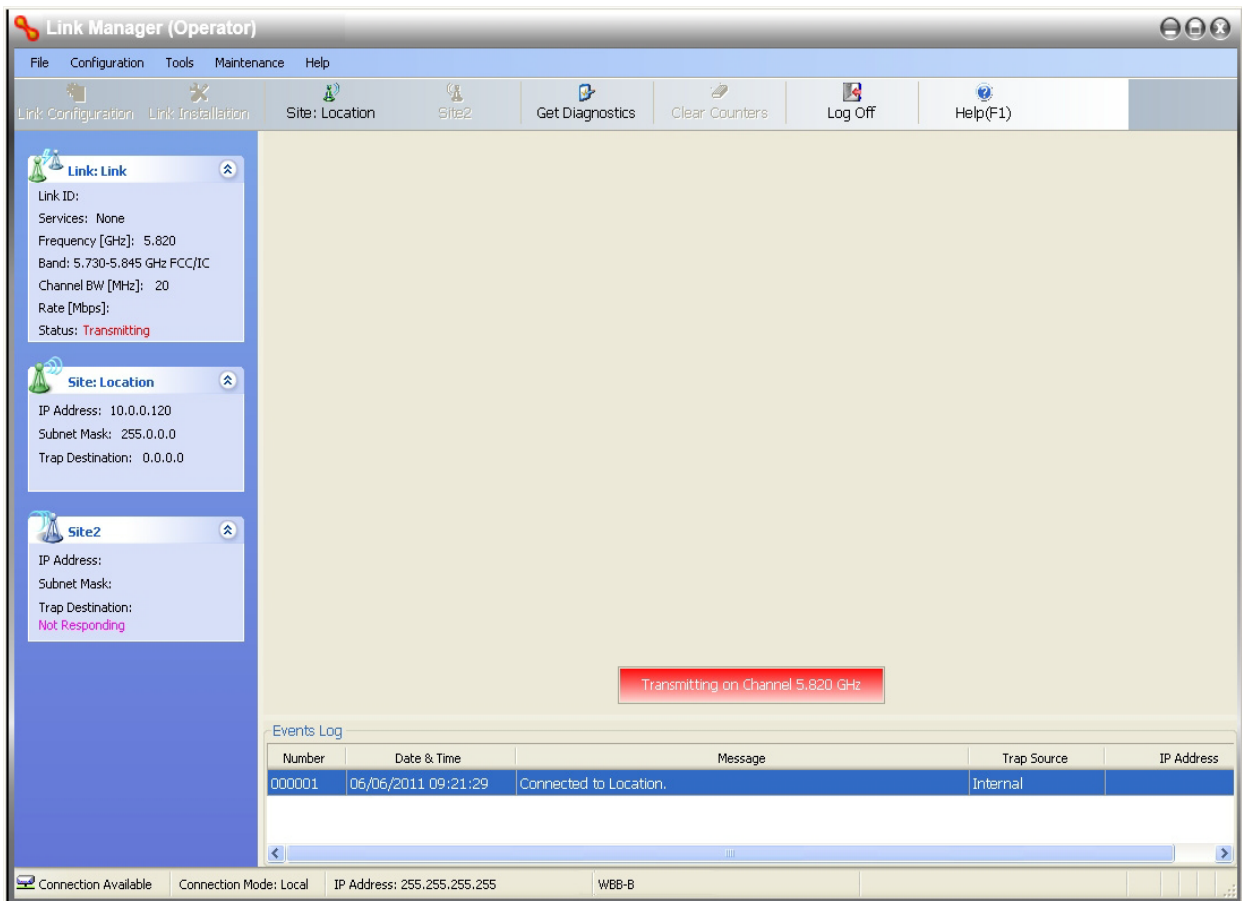

Figure 25-2: Opening Link Manager window prior to installation
13. Click **Cancel** to leave the open Management dialog. You may now exit the Link Manager, or connect to another ODU. If you choose to connect to another ODU, after about a minute, the main window of the Link Manager will revert to that shown in Figure 25-2 above. In any event, power down the changed ODU; your changes will take effect when you power it up again.